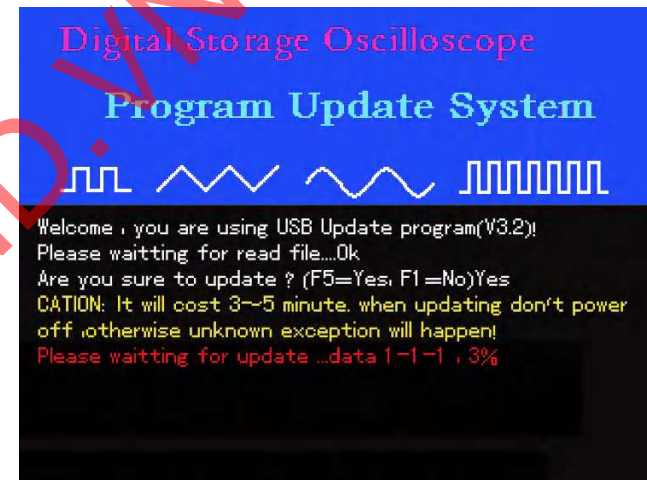

Figure 5-4
5. On the screen shown in Figure 5-3, press [F5] to confirm you require to upgrade the program. The screen shown in Figure 5-4 will appear with the following prompt: "CAUTION: It will cost 3-5 minute. When updating don't power off, otherwise unknown exception will happen! Please waiting for update ...data ...%"